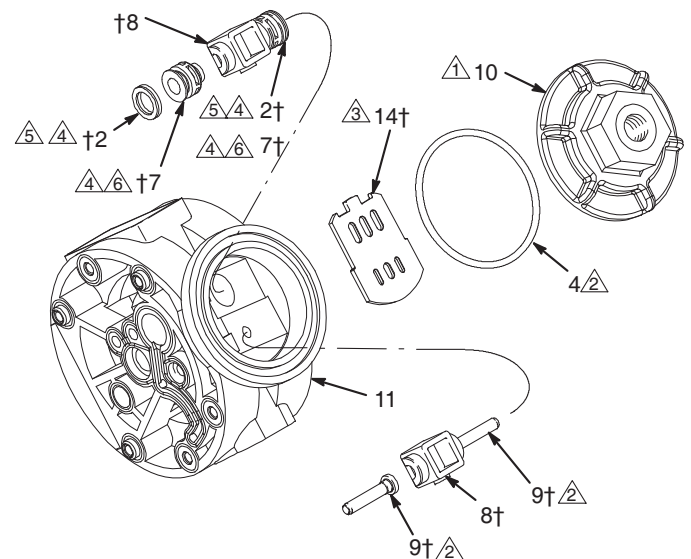

Fig. 8
**NOTE:** Air Valve Repair Kit 241657 is available. Parts included in the kit are marked with a dagger (†) in Fig. 8 and in the Parts Drawings and Lists. A tube of general purpose grease 111920 is supplied in the kit. Service the air valve as follows. See Fig. 8.